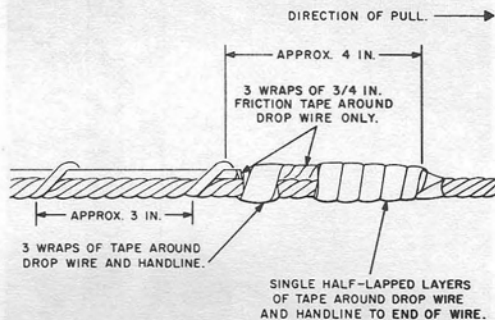

Fig. 7—Alternate Tie to Prevent Snagging
- (g) Tape the drop wire to the handline as shown in Fig. 7. The handline must be long enough so both ends are accessible from the ground during the entire raising operation.
(2) Place the drop wire as covered in paragraph 3.01 (a) through (d) and raise the wire at the pole of strand end of the span as outlined in Steps (3), (4), (5), and (6).
(3) With the drop wire crossing the roadway and resting flat on the ground, remove sufficient wire from drop wire dispenser to reach the terminating point.
(4) Cut and tape the drop wire to the handline as shown in Fig. 7. The handline must be long enough so both ends are accessible from the ground during the entire raising operation.
- (c) Estimate and pace off the amount of wire to be placed. Cut the drop wire and tape it to the handline (Fig. 7).